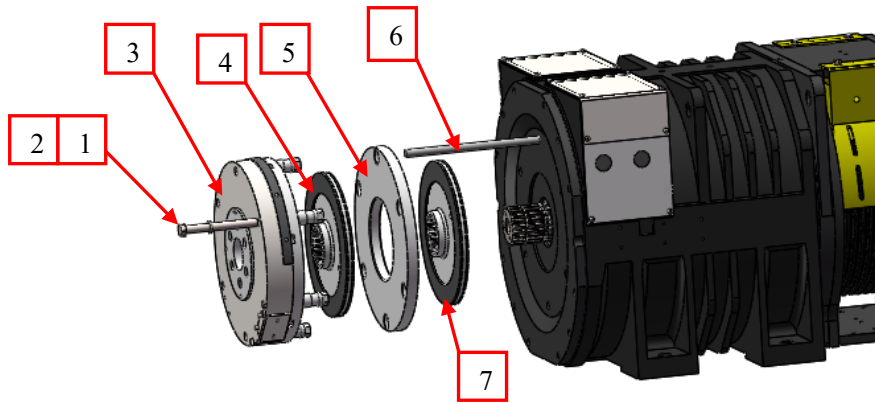

Figure 53 Reinstall Normal Brake
4. Install the threaded rod M16x320 into the top hole of brake frame as shown by item 6 in Figure 53 and Table 8.
7. Then install the other brake components. See Figure 53.